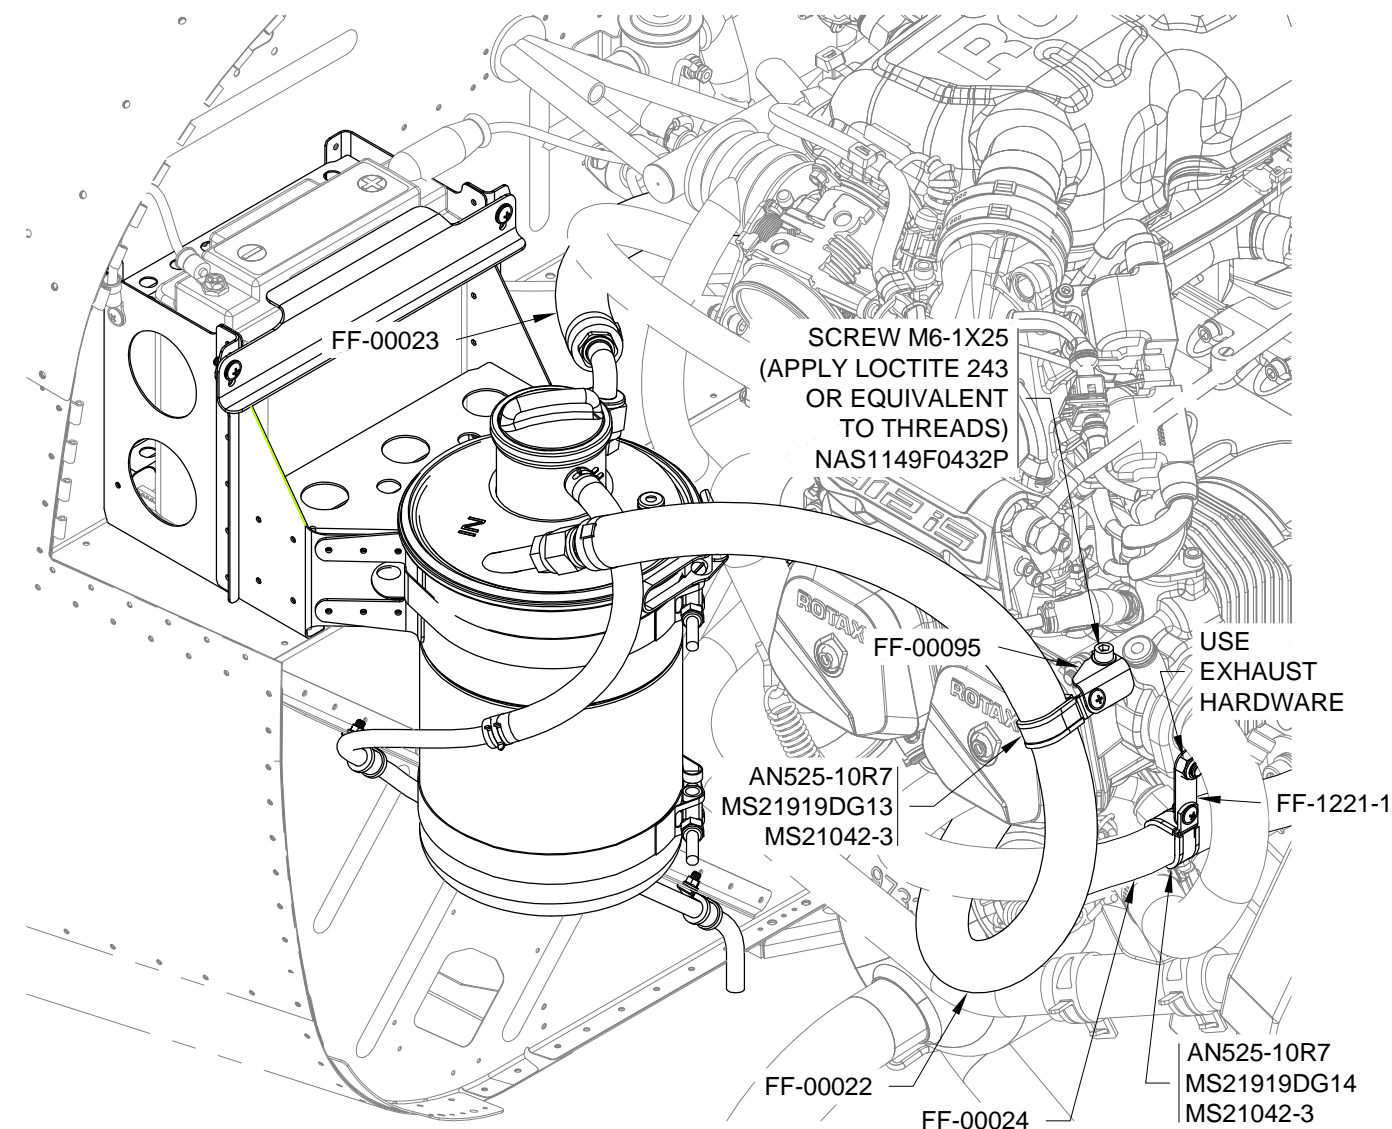

FIGURE 2: ATTACH & SECURE OIL HOSES
Step 9 (ULS): Install the cushioned clamps around the FF-00022 and FF-00024 as shown in Figure 2.
Step 10 (iS): Install the cushioned clamps around the FF-00022 and FF-00024 as shown in Figure 2.
Route the Rotax Ambient Air, Pressure, Temperature Sensor (AAPT) wire through the FF-00022 cushioned clamp. See Figure 2 on Page 50iS/U-10.